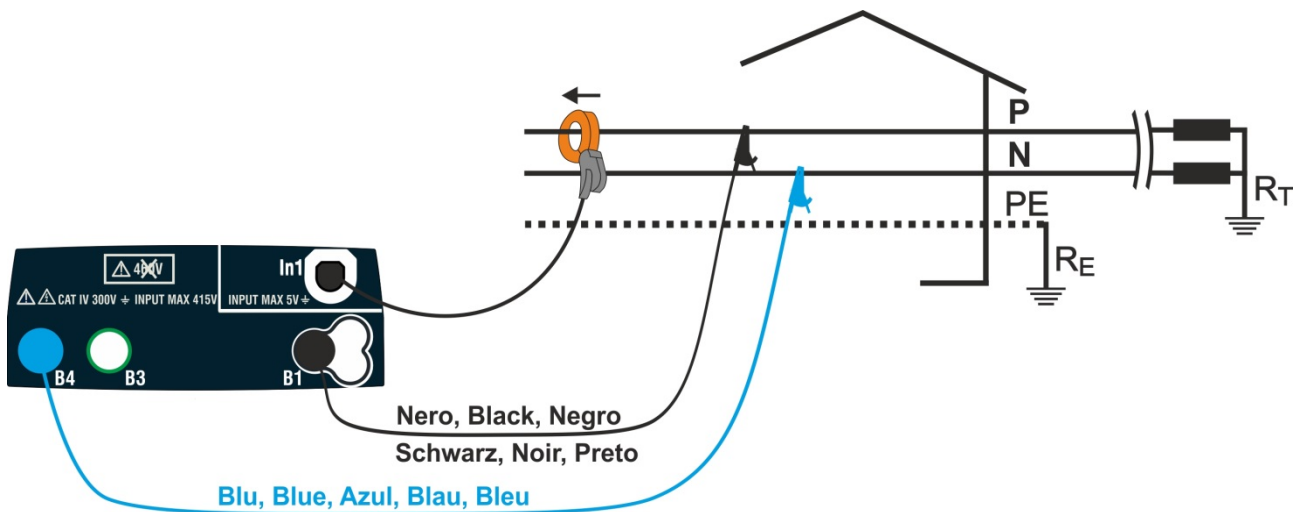

Fig. 42: Connection for measurements in a single-phase system
- **FS** → This key allows selecting the full scale (FS) of the clamp transducers which can be used with the instrument. Following values are available: **1A, 5A, 10A, 30A, 40A, 100A, 200A, 300A, 400A, 1000A, 2000A, 3000A**
3. Insert the blue and black connectors of the separate cables into the relevant instrument input terminals B4 and B1. In the free end of the cables, insert the corresponding alligator clips or leads. Connect the alligator clips, leads to phase P and to N according to Fig. 42 to measure voltage in single-phase systems. Connect the external clamp to the instrument's input **In1** and to the phase conductor for single-phase systems. The arrow on the clamp must point in the direction of the current flow, normally from generator to load, as shown in Fig. 42.